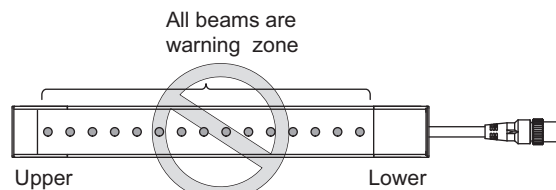

Fig. 7
- All beams are configured as a warning zone (Fig. 7).